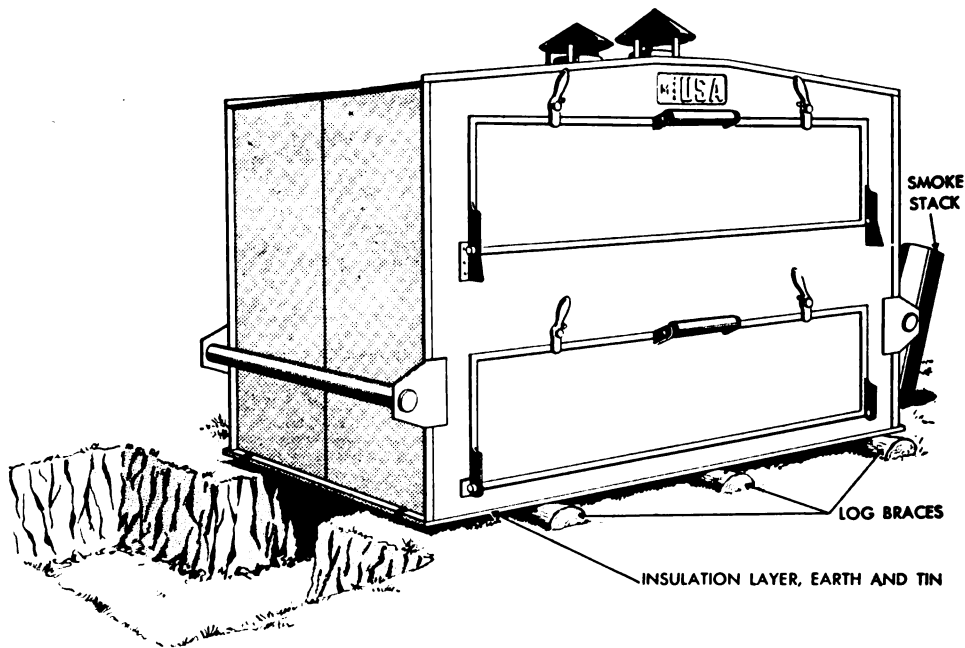

Figure 71. Top section of oven, bake, field, M1942, used with wood fire.
d. Another procedure for using a wood fire is as follows (see fig. 71):
(1) Dig a firing trench about 8 feet long, 3½ feet wide, and 20 inches deep. Extend the cut at the firing end to make a convenient firing pit. At one end of the firing pit, dig a hole and insert a drain bucket.
(2) Improve a trench cover as insulation for the oven bottom. Make the trench cover in the form of a "sandwich" with a layer of mud between two metal sheets. The metal sheets may be con-